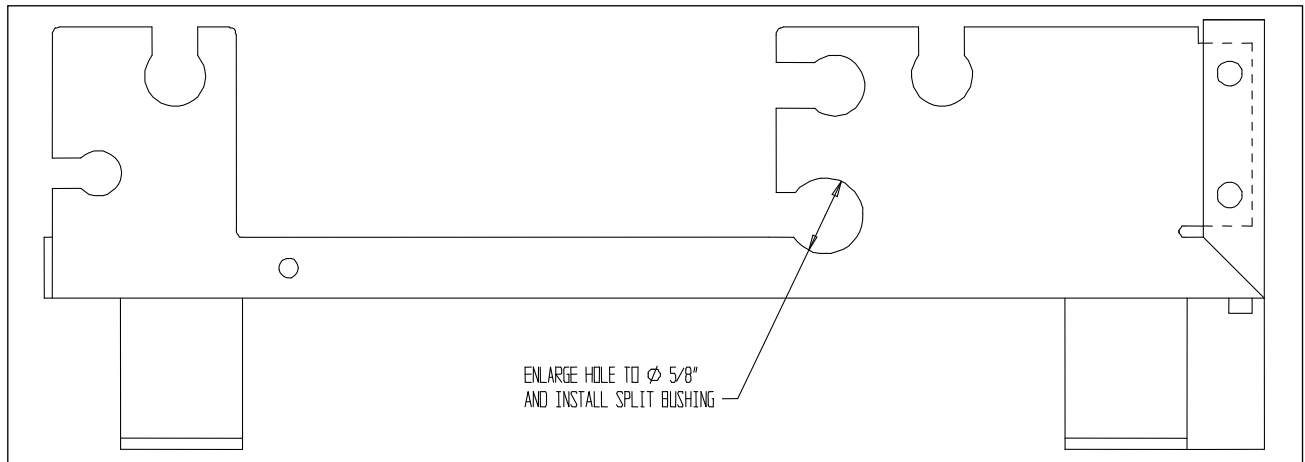

FIGURE 6 :
- 14a) Enlarge hole that the wire harness removed in step 9 went through to 5/8" and install split bushing. See FIGURE 6
- 14b) The short wire (C) connects to **CIRCUIT BREAKER 3 AUX** terminal.
- 14c) The medium length wire (B) connects to **CIRCUIT BREAKER 2 AUX** terminal.
- 14d) The long wire (A) connects to **CIRCUIT BREAKER 1 AUX** terminal.